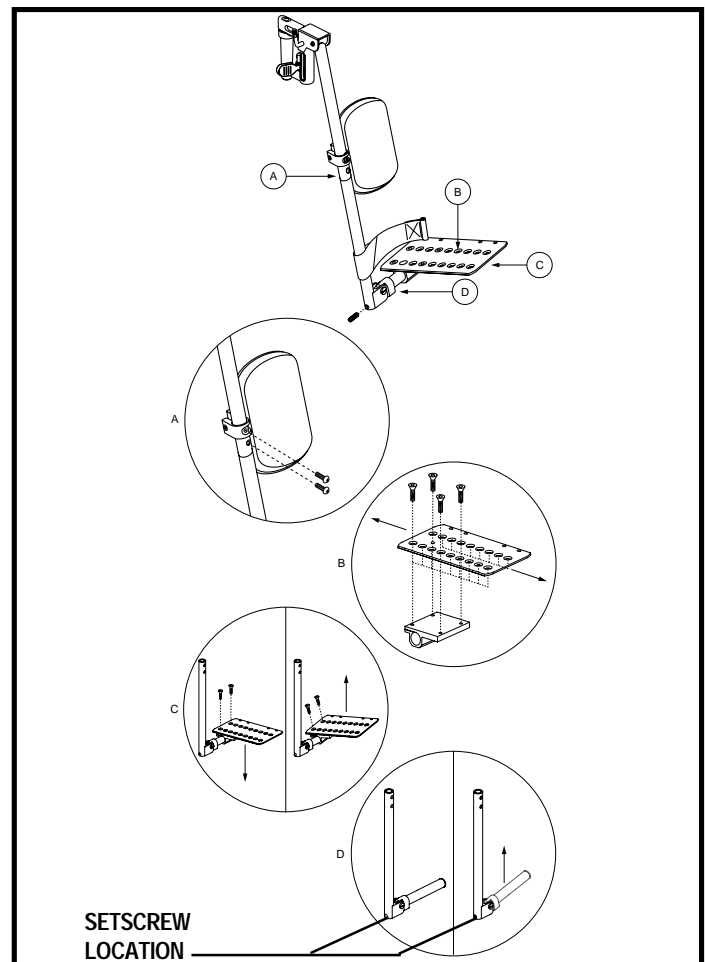

Figure 31. Multi-Axis Foot Plate
The multi-axis foot plate assembly can be installed on either a swing-away footrest or an elevating leg rest. The multi-axis foot plate has four adjustments: leg rest length (A), position (B), tilt (C), and angle (D). See figure 31.